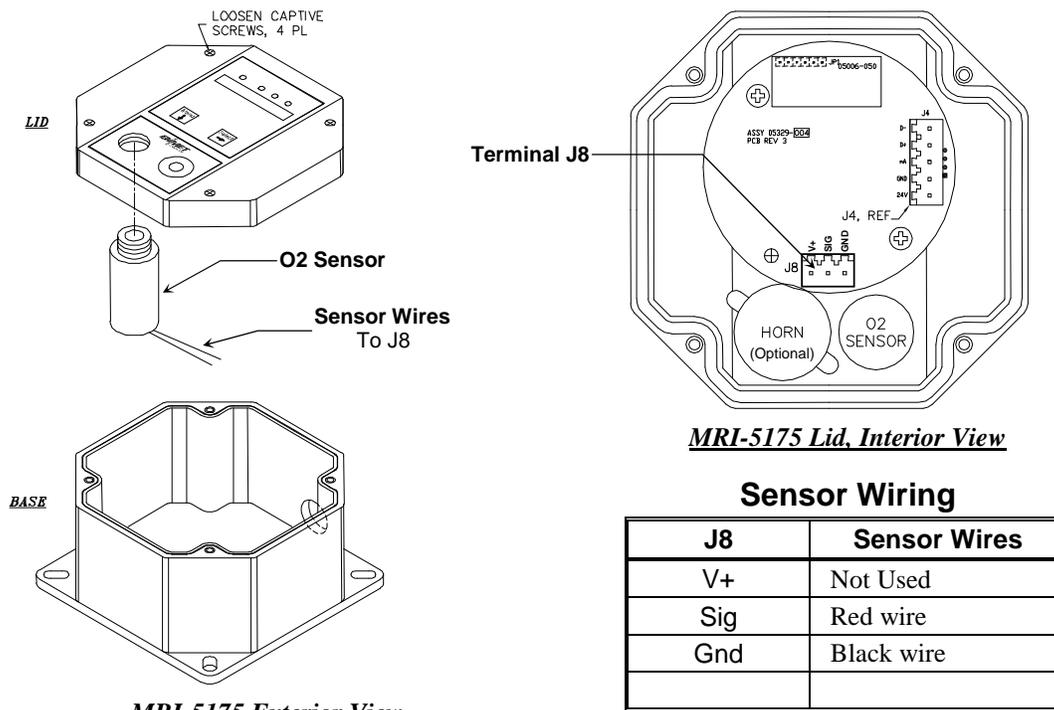

Figure 1: MRI-5175 Sensor Replacement
- Open the display panel and remove the four cover (lid) retention screws and remove the lid. See **Figure 1**.
- Remove the old O₂ sensor, by unscrewing it, and replace it with a new sensor. See **Figure 1**.